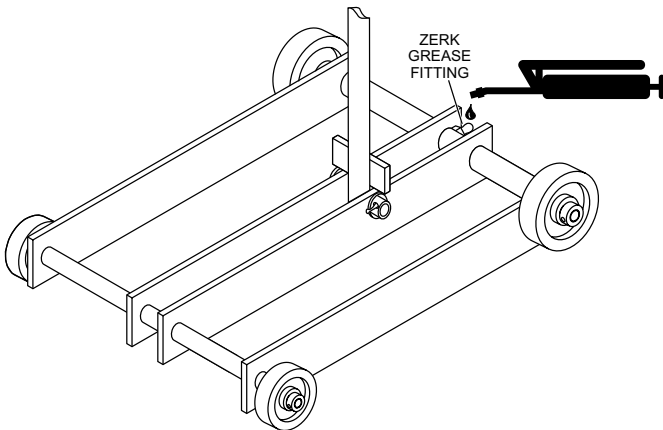

Figure 44. Rear Wheels
1. **Rear Wheels (1)** — Grease daily (Figure 44).